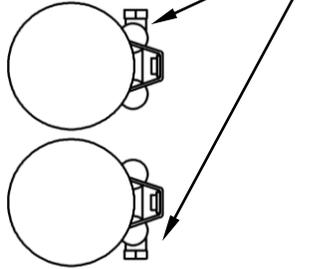
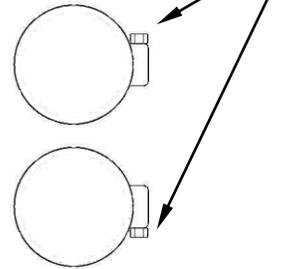

FIGURE 3A
FIGURE 3B
7. Remove the muffler assembly from the box and slide two supplied 27-61MSC clamps onto the slotted muffler inlet tubes. Refer to Figure 3A for alignment of clamps.
8. Slide the muffler assembly onto the headpipes by tapping on the headpipes with your hand as you push the muffler forward making sure the assembly slides as far forward as possible. Secure the muffler assembly to the exhaust mount bracket using the (2) supplied 5/16-18 bolts but **DO NOT TIGHTEN**.
10. Unscrew the hose clamps and feed the tail end of the clamp through the clips on the inside of the heatshields, the larger clamps go to the rear of the heatshields where they will rest on the muffler bodies, smaller ones to the front for the headpipes. The screw end of the hose clamp should be accessible for tightening but not visible when the heatshields are mounted to the pipes. Figure 3B.
11. To install the front heatshield, first slide the rear portion of the heatshield over the muffler, continue to slowly slide it forward pushing the front of the shield gently into place between the frame and motor (Hint: Spread the hose clamps apart slightly to make it easier to slide them over the muffler assembly and headpipes). Make sure the muffler clamps don't interfere with the heatshields and are aligned as shown in Figure 3A. Snug the heatshield clamps but **DO NOT TIGHTEN**.